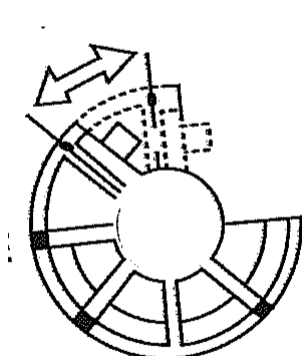

Figure 1 - Former axis adjustment sticker (rear of gearbox)
- **Former axis adjustment** - made with the adjusting screw at the rear of the reduction gearbox, marked by a sticker (Figure 1). It adjusts the limit switch so that the output shaft can start a few degrees behind the normal former-to-guide alignment. This improves the bend, particularly on thin-walled pipe.